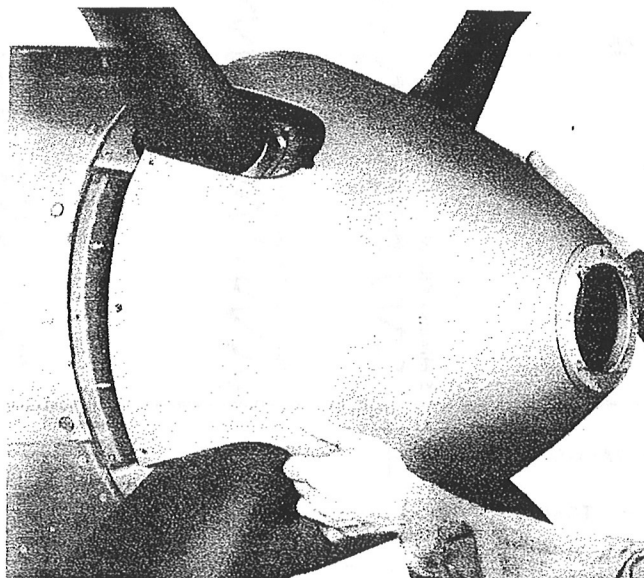

Figure 29—Removing Spinner
- c. Remove the spinner shell with the hands only after removing the attaching screws. (See figure 29.)